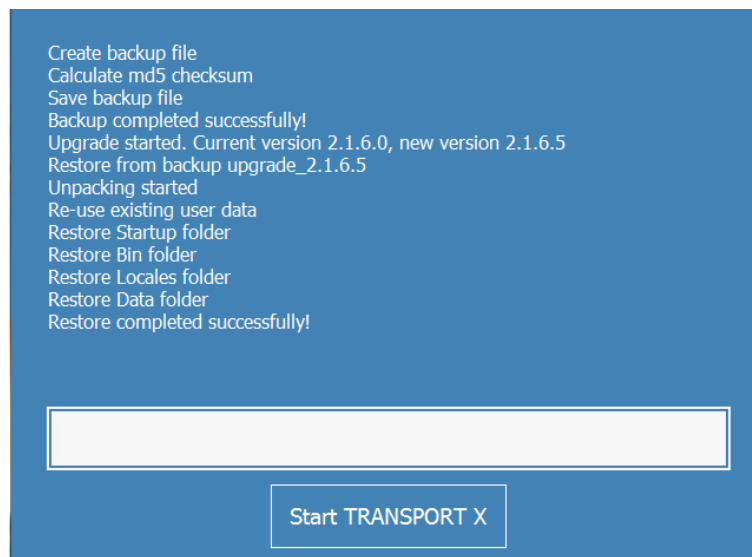

Figure 11-5: Firmware Upgrade - complete
2. Press **Yes** to proceed with the firmware upgrade. The various phases of the upgrade are listed as they occur and a bar shows the progress. If successful, the **Start Transport X** button displays as shown in Figure 11-5.